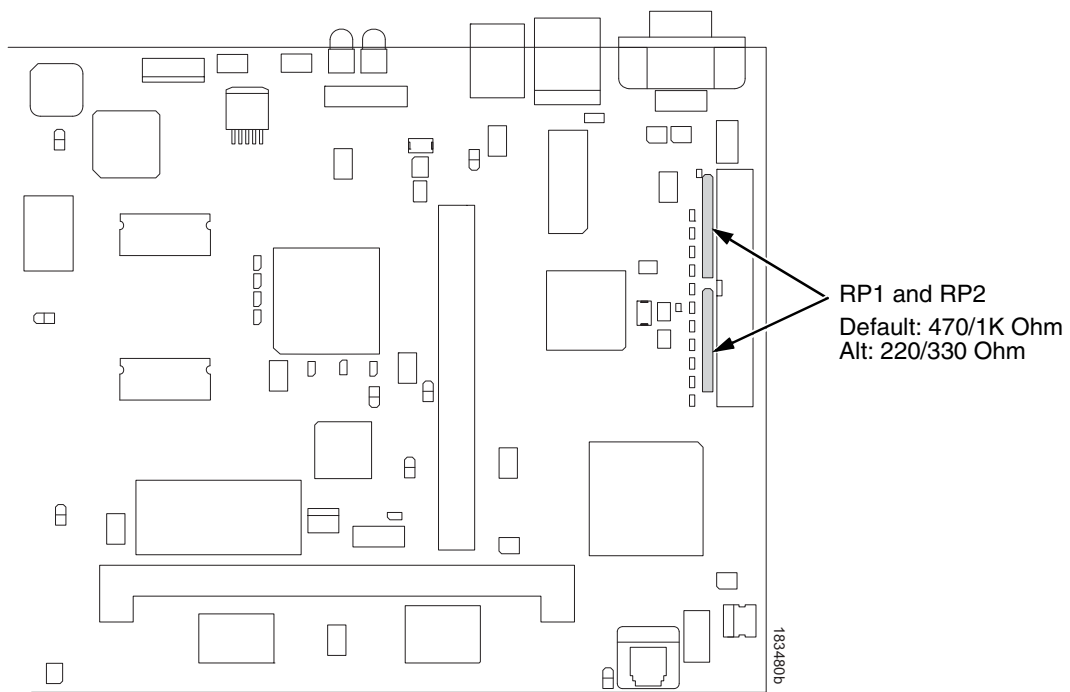

Figure 35. Terminating Resistors, V6 Controller Board, Removal/Installation
For parallel interface configurations, the printer is equipped with 470 Ohm and 1K Ohm terminating resistors on the controller board. These are suitable for most applications. (See Figure 35, page 321.)
3. Locate the terminating resistor packs. (See Figure 35, page 321.)
1. Using a chip installation tool, install the resistor packs in the correct socket. (See Figure 35, page 321.)